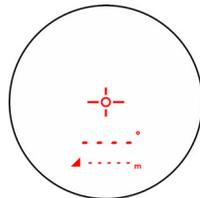

Figure 23
2. Press the  button to start the Survey Mode. The display should look like Figure 23.